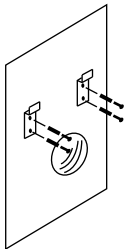

Fig 5
3. Attach brackets to wall using plug and screws (Fig 5).